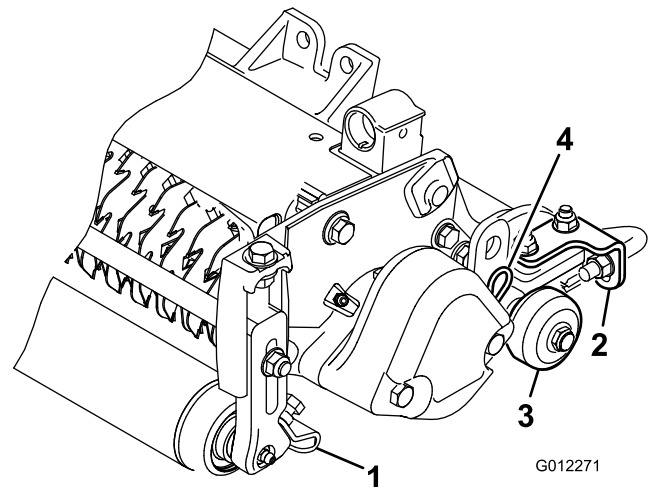

Figure 6
1. Loosen the flange nuts that secure the roller scrapers (Figure 6).
Before the verticutters are lowered to the shop floor or removed from the traction unit, lower the transport rollers (Figure 6) to protect the blades from hard surface contact.
The verticutters can be installed at any of the three locations on the traction unit. Figure 6 shows the orientation of the hydraulic drive motor for each of the locations. For any of the locations requiring the motor to be mounted on the right end of the verticutter, install a counterweight on the left end of the verticutter. For the locations requiring the motor to be mounted on the left end, install a counterweight on the right end of the verticutter.